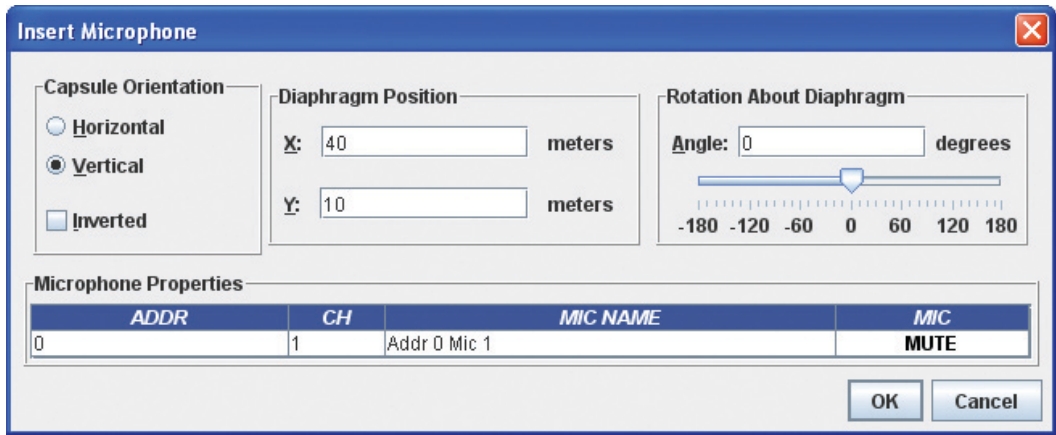

Figure 30. The Insert Microphone dialog box
1. Click **Insert Microphone...** from the **Insert** menu. The Insert Microphone dialog box appears (Figure 30).